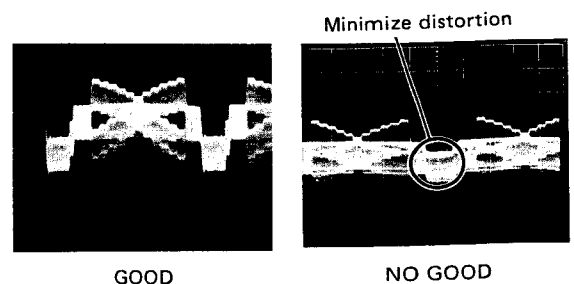

Fig. 5-6-14
- o Turn VR13 (2H CCD BIAS) slowly and stop it at the point where the distortion of the H.BL signal becomes minimum. (Fig. 5-6-14)